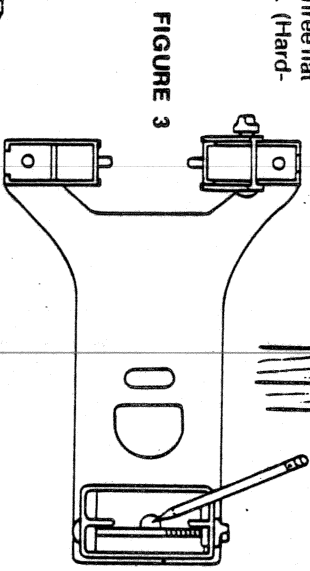

FIGURE 3
1. Loosen the two knobs on the Base Assembly shown in figure 3.
2. Mark, with a pencil, the positions of the three mounting holes in the Base Assembly, as shown in figure 3.